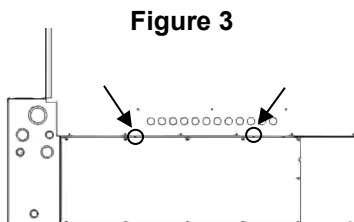
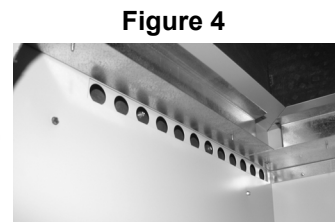

Figure 3
Figure 4
5. Mount the air handler base to the base of the furnace using the index holes as shown in Figures 3 and 4. Figure 4 is, as viewed, looking up and into the base of the air handler. Screws for attaching the base are included in the hardware kit.